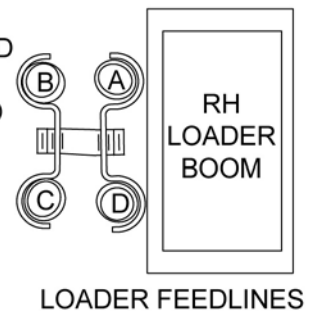

Figure 11. Loader Feedline Identification
2. Follow color code listed in Figure 11.